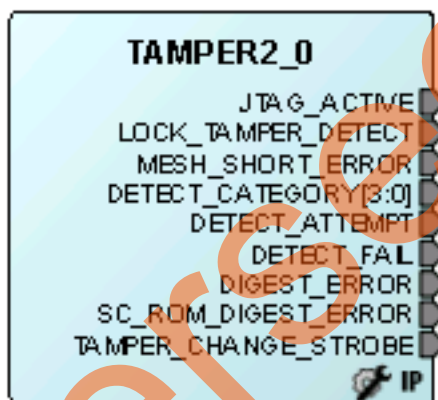

Figure 25 • Tamper Macro
- a. Drag-and-drop the **Tamper Macro** available in **Libero Catalog** to the **Dev_Restart_after_ISP_blk** SmartDesign canvas, as shown in Figure 25.